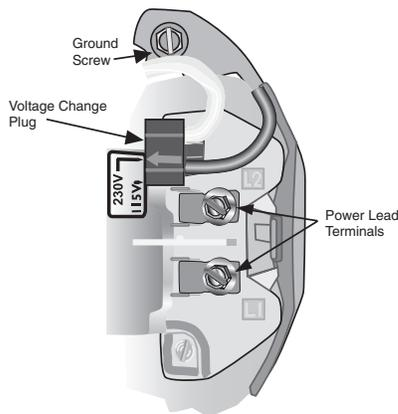

Figure 6: Voltage set to 230 volts, Plug Type
- Connect the power supply wires to the pressure switch terminals marked LINE, L, or L1/L2. It doesn't matter which power supply wire goes to which of these terminals in the pressure switch. In a new pump, the motor leads will already be connected to the switch; the motor will be hooked up for 230 volts. *If your power supply is 115 volts, see Figure 6.* If you are replacing the pressure switch, connect the motor leads to the switch terminals marked LOAD, MOTOR, M or M1/M2. Make sure that either: